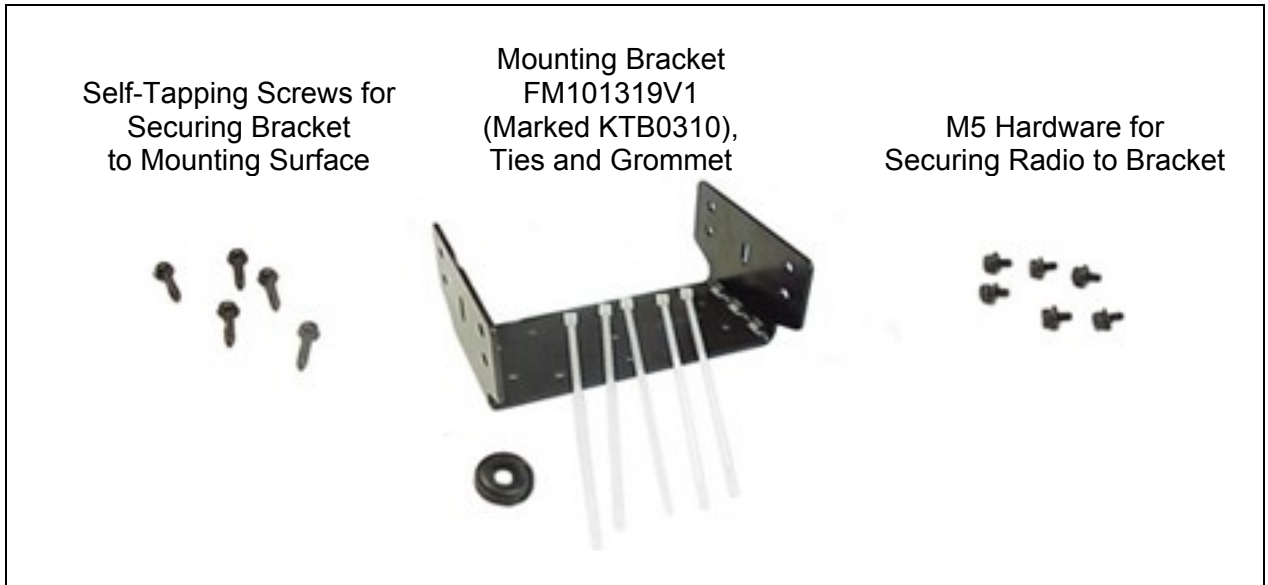
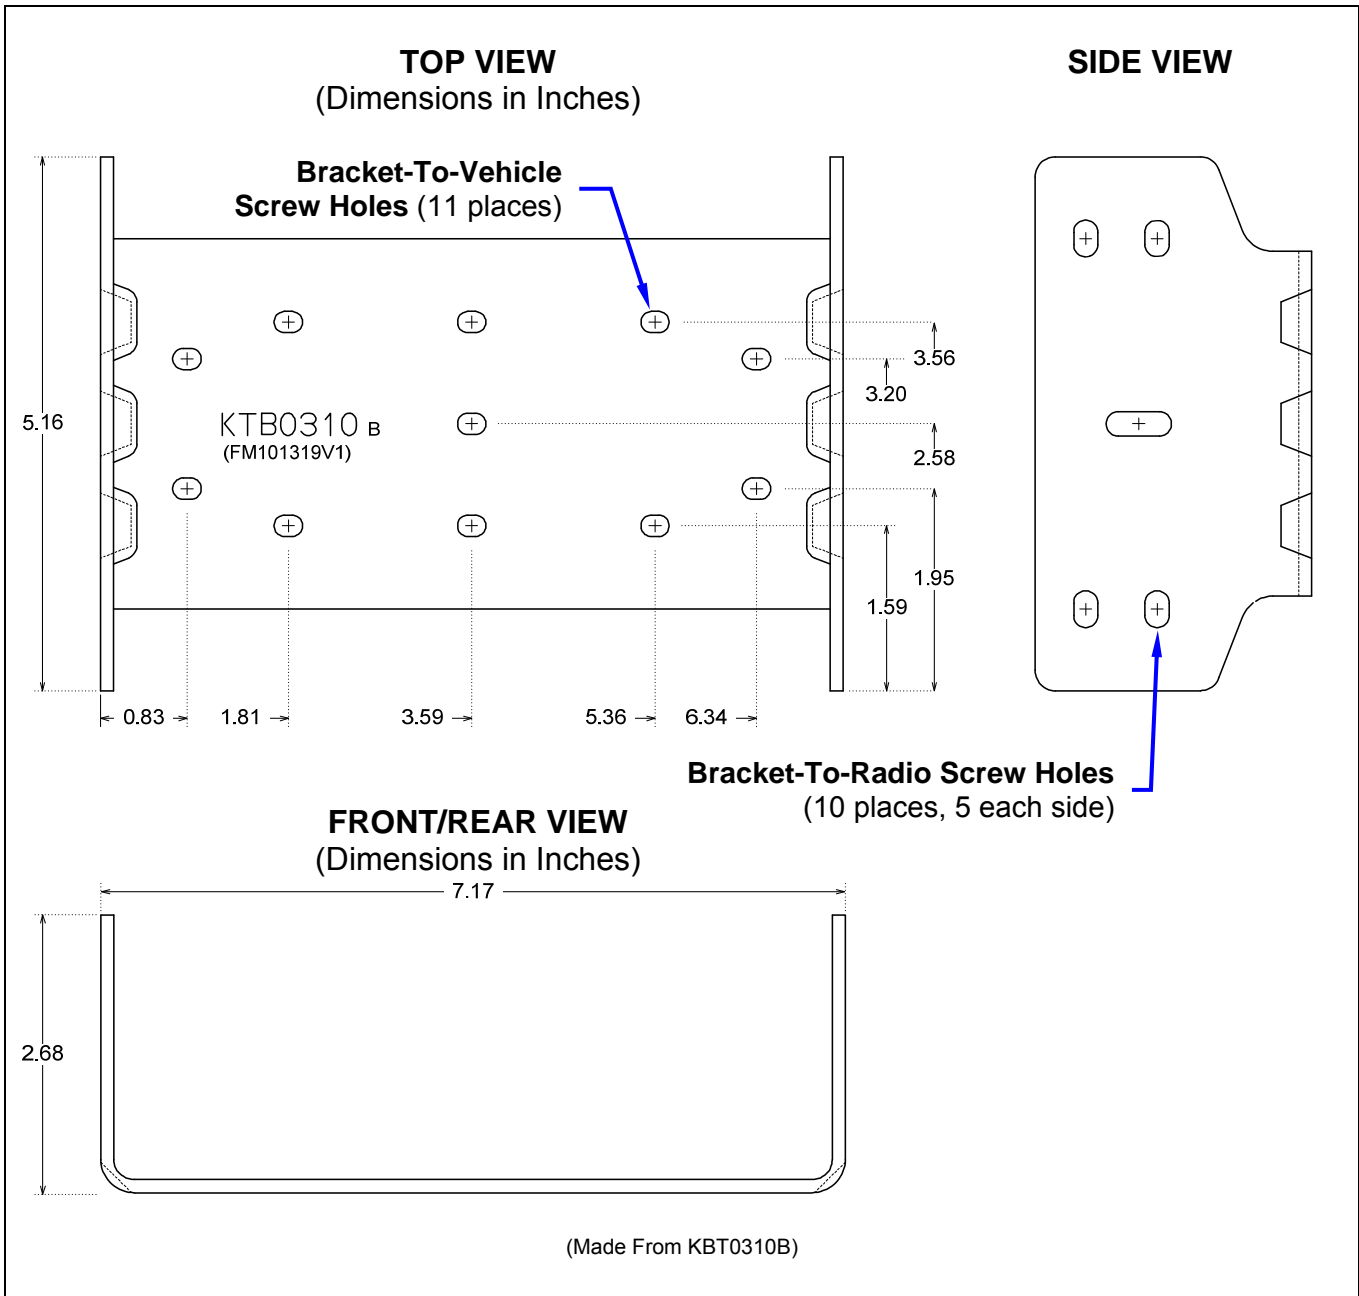

Figure 7-2: Front-Mount Mounting Bracket Kit KT101533V1
Figure 7-3: Mounting Bracket FM101319V1 (Marked KTB0310) Dimensions [for Front-Mount M7300 Mobile Radio (Radio Not Shown)]
The Mounting Bracket Kit for the front-mount M7300 mobile radio includes a heavy-gauge steel U-shaped mounting bracket. The radio should be attached to a mounting surface using this bracket. The bracket can be mounted above or below the radio. Kit contents are shown in Figure 7-2, and bracket dimensions are shown in Figure 7-3.
The front-mount M7300 radio’s mounting bracket is included with the Front-Mount Mounting Bracket Kit KT101533V1. Kit contents are shown in Figure 7-2. This kit is Item 1 listed in Table 4-4 (page 26).
As illustrated in Figure 7-3, the bracket is both left-to-right and front-to-rear symmetrical. It has eleven (11) holes for securing it to a mounting surface. At least four (4) of these holes must be used to secure the bracket to the mounting surface. Five 20-millimeter-long self-tapping screws are included in the Mounting Bracket Kit for this purpose. However, some other type of hardware (not supplied) may be used, such as #10-32 stainless-steel self-locking hardware (i.e., machine screws with washers and locking nuts), or self-drilling screws. Self-drilling screws such as “TEK” screws do not require drilling of a pilot hole prior to installation. Do **not** use common self-threading sheet metal screws because they will loosen over time with vehicle vibrations.
2. Secure the radio to the bracket using at least four (4) of the six (6) M5 x 10 mm stainless-steel socket-head screws included with the Mounting Bracket Kit. These screws have captive lockwashers. Kit contents are shown in Figure 7-2. This kit is Item 1 listed in Table 4-4 (page 26).